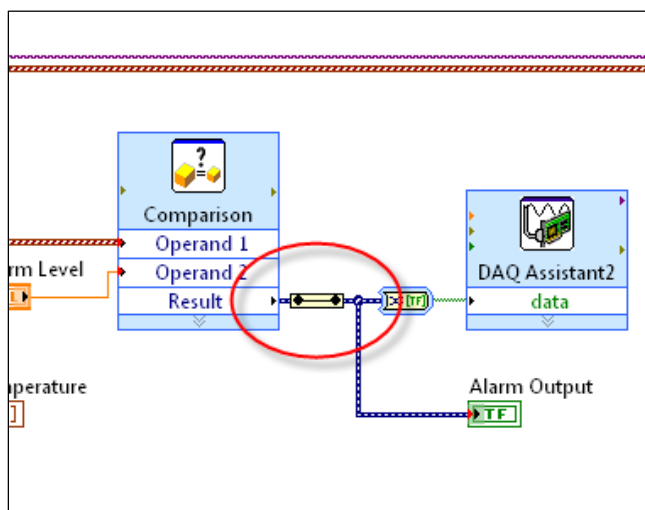

Figure 16. Insert the Split Signals node immediately after the Comparison Express VI.
- j. From the right-click context menu, select **Insert » Signal Manipulation Palette » Split Signals** as shown in Figure 16.